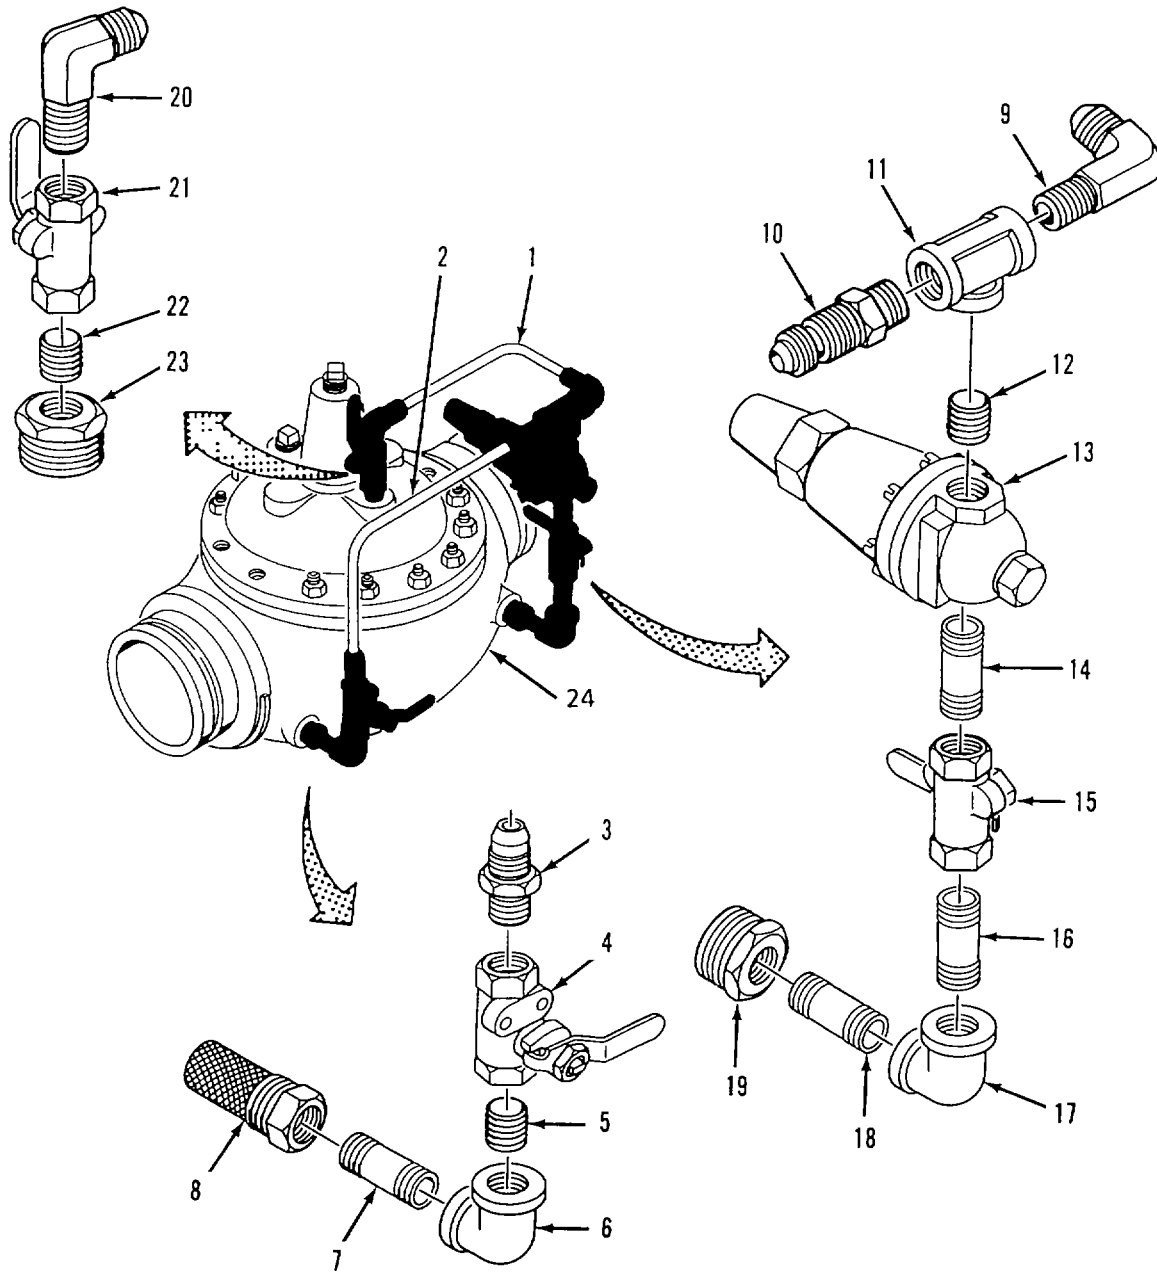
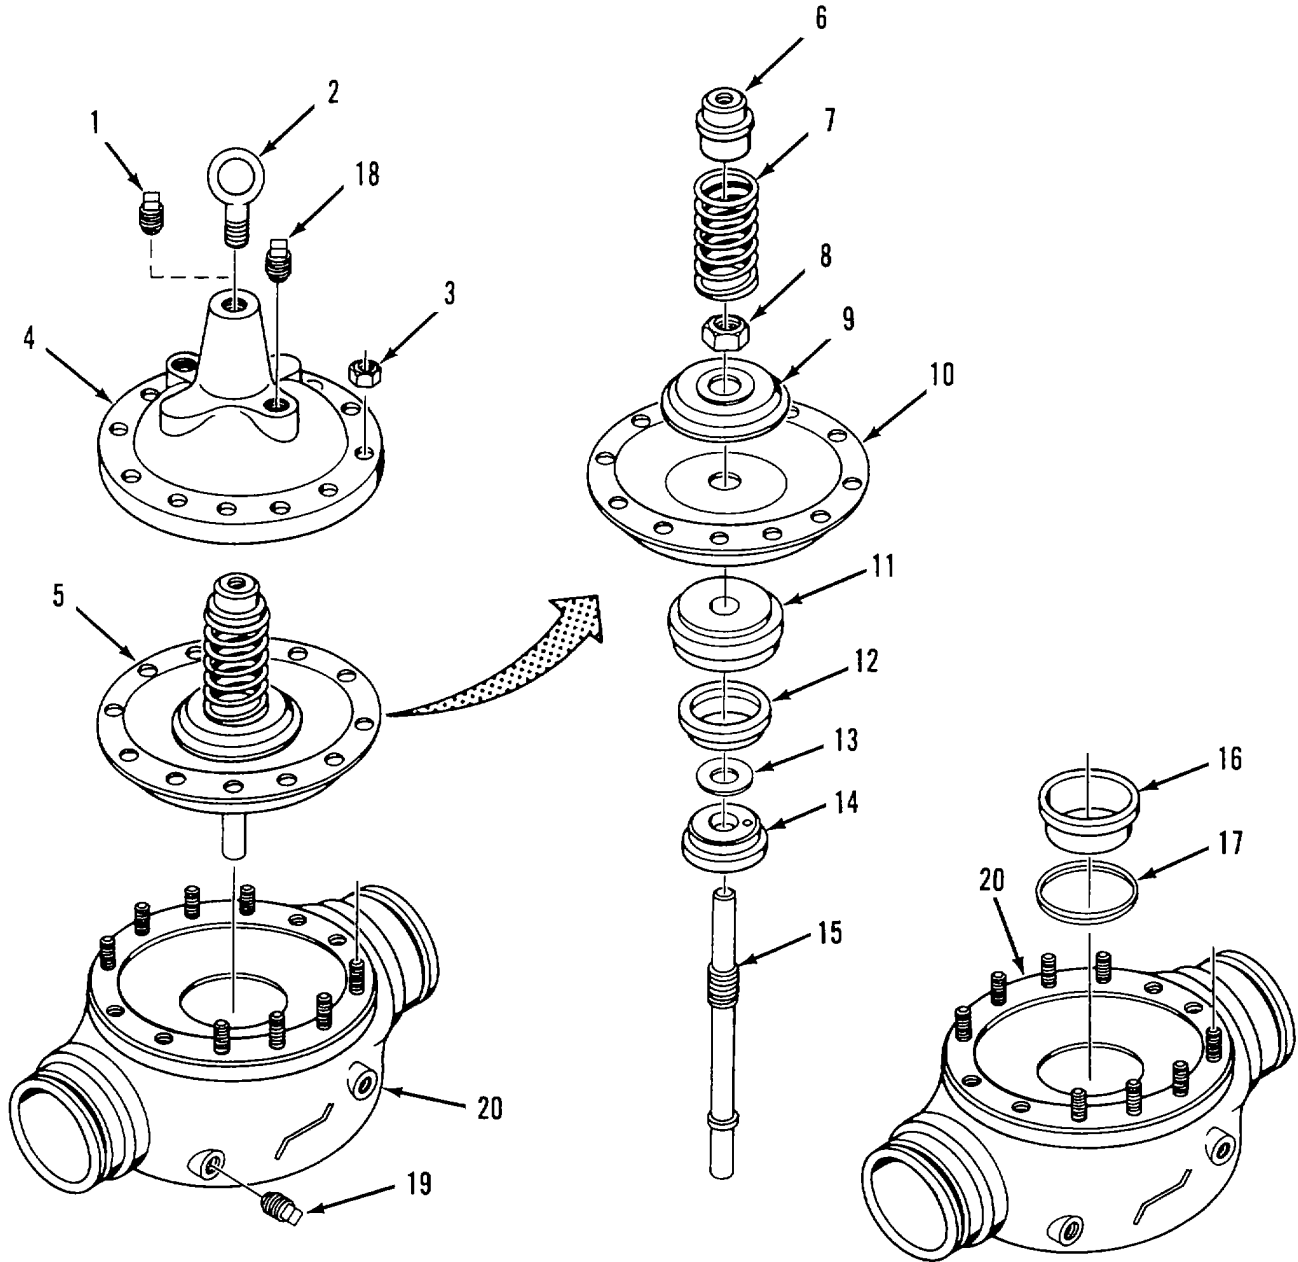

Figure 4-18. Pressure Regulating Valve Piping Removal.
Figure 4-19. Pressure Regulating Valve Disassembly.
To aid disassembly, loosen eight nuts (3, figure 4-19) on cover before removing pressure regulating valve from frame.
Disassemble Inlet. Piping Refer to figure 4-18.
Disassemble Outlet Piping. Refer to figure 4-18.
Disassemble Bypass Piping. Refer to figure 4-18.
Disassemble Pressure Regulating Valve. Refer to figure 4-19.
- (1) Inspect body (20, figure 4-19) for cracks, corrosion and stripped or damaged threads.
- (2) Inspect stem (15) for cracks, scratches or damaged threads.
- (3) Inspect cover bearing (6), disc retainer (11), disc guide (14) and seat (16) for cracks, corrosion and deep scratches.
- (4) Inspect all threaded piping components (figure 4-18) for cracks and stripped or damaged threads.
- Replace damaged parts and all sealing components. Do not reuse diaphragm (10, figure 4-19), disc (12) or packing (17).
- (31) Position bracket (6) on top of pressure regulating valve (9) as shown.
- (32) Install bracket (6), two flat washers (5) and bolts (4) into top of pressure regulating valve (9).
- (33) Install two flat washers (3), bolts (2) and nuts (1) through frame (10) and bracket (6).
- (34) Repeat steps (1) and (2) for bracket (6) on other side of pressure regulating valve (9).
- (35) Tighten eight nuts (3, figure 4-19) on cover. Tighten nuts evenly in a cross pattern.